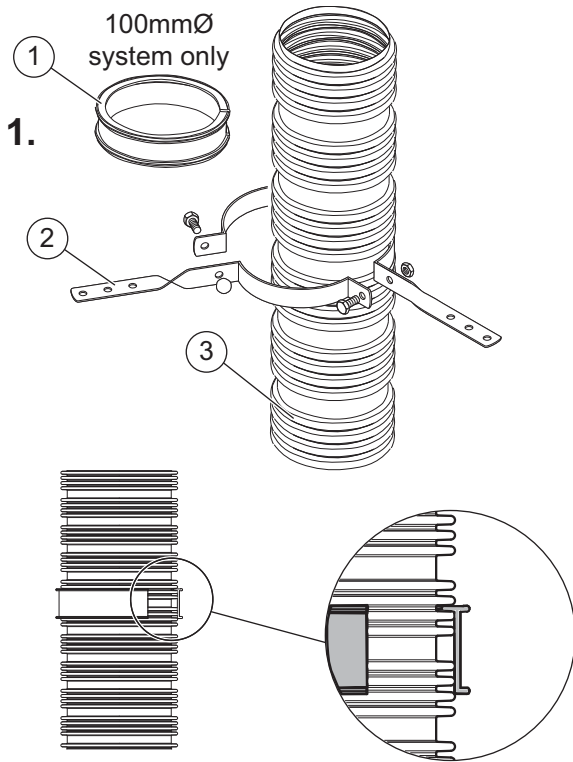

Fig. 15 Support collar detail for 100mm
1. 100mmØ systems - refer to figure 15: